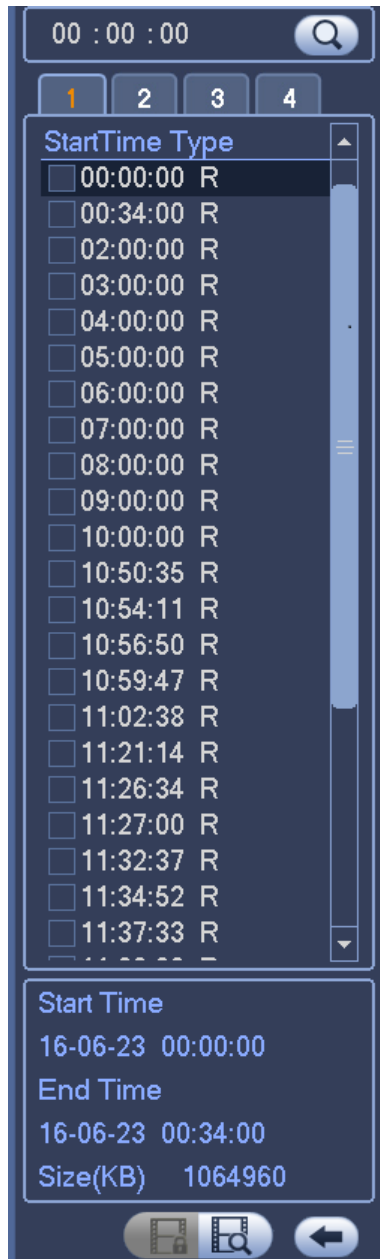

Figure 4-112
Click , system displays file list. It displays the first channel of the record. See Figure 4-112.
- In Figure 4-112, select a file first and then click . You can lock it in case it is overwritten in the future.